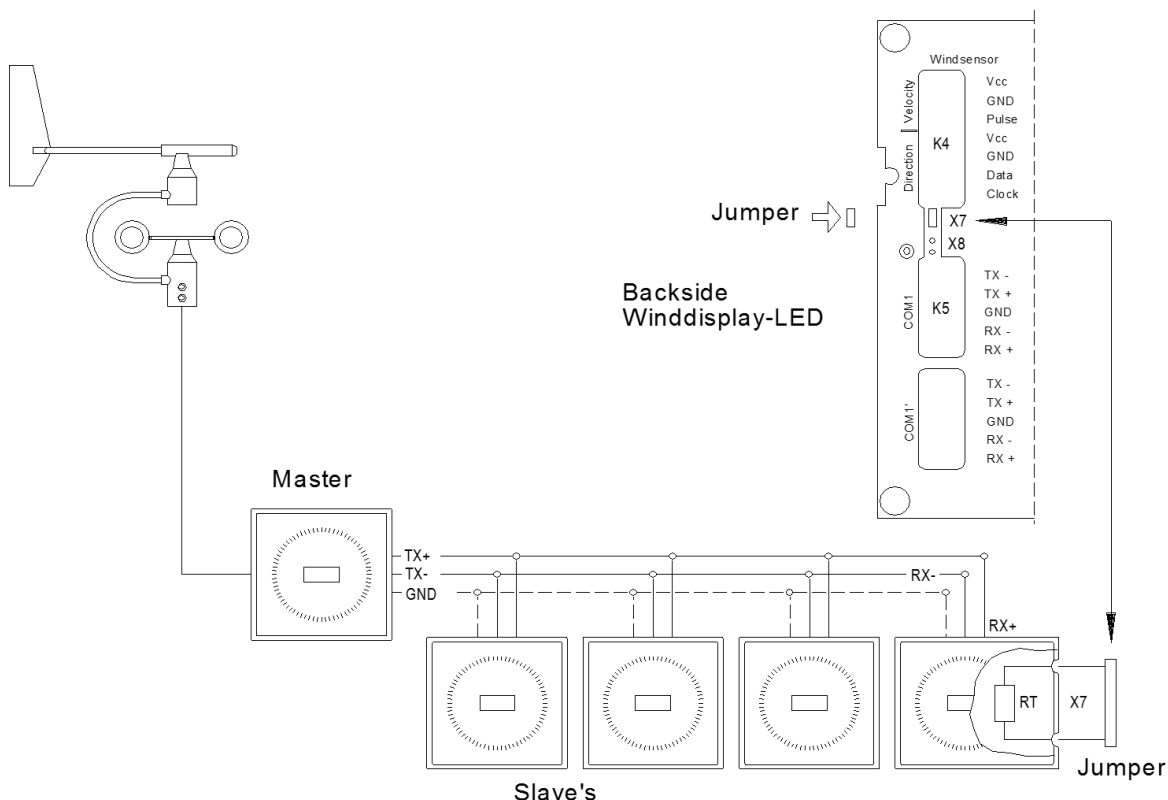

Figure 4: Example for connection
For termination using long cables the rear of the wind display is equipped with contact pins X7, which can be bridged from outside using a jumper if required (ref. figure 4).
- When a jumper (X7) is inserted at the receiver (Slave) the integrated termination resistor (RT=200Ω) is activated (ref. figure 4).